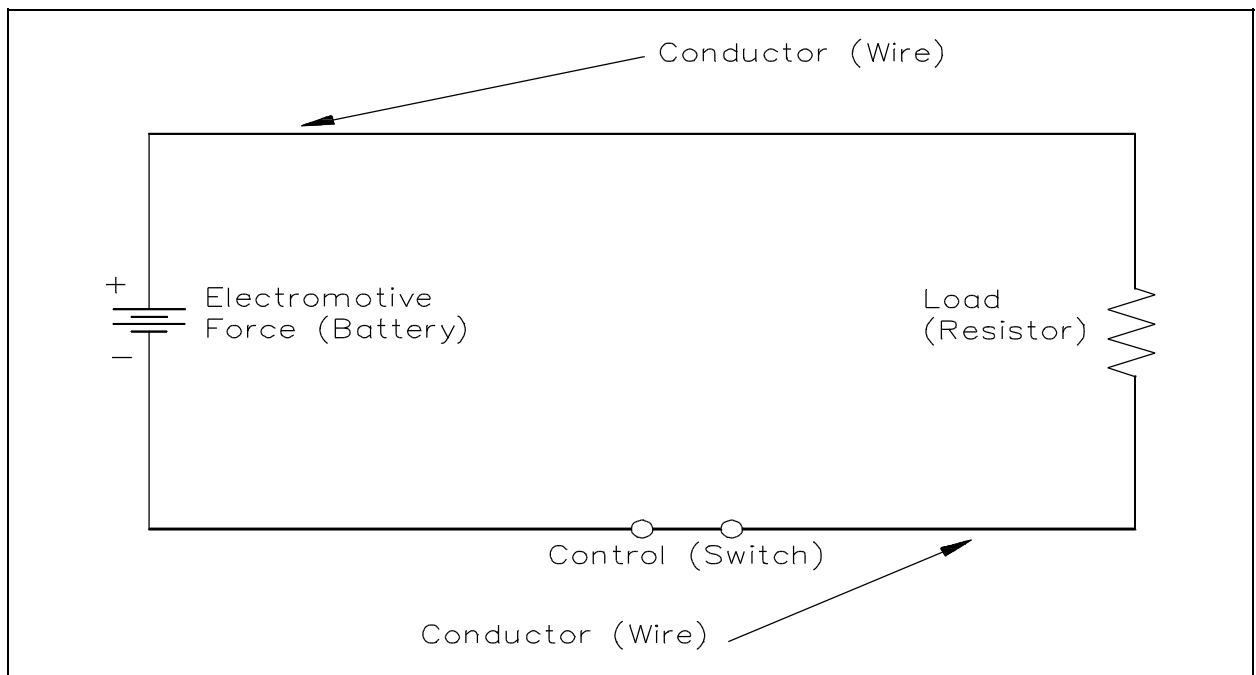

Figure 13 Closed Circuit
Each electrical circuit has at least four basic parts: (1) a source of electromotive force, (2) conductors, (3) load or loads, and (4) some means of control. In Figure 13, the source of EMF is the battery; the conductors are wires which connect the various component parts; the resistor is the load; and a switch is used as the circuit control device.
A *closed circuit* (Figure 13) is an uninterrupted, or unbroken, path for current from the source (EMF), through the load, and back to the source.